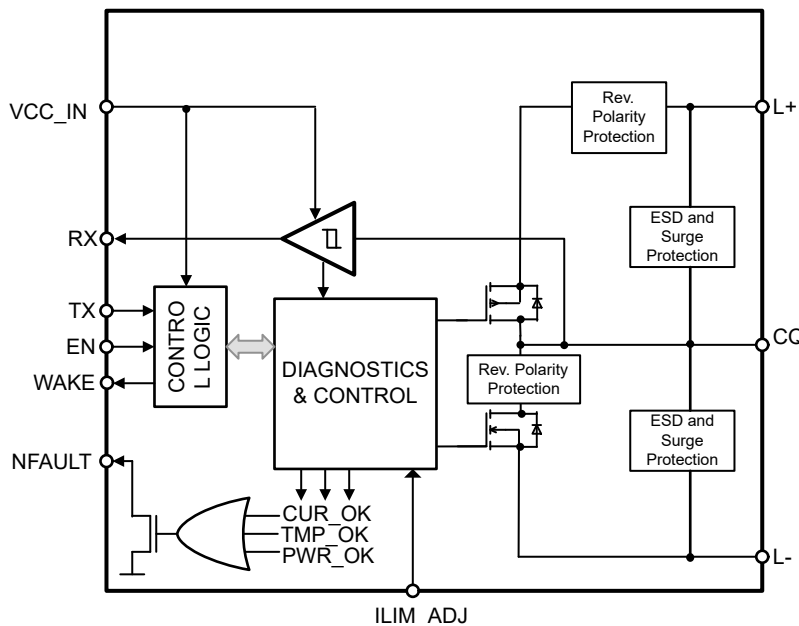

图 8-1. Block Diagram TIOL112
图 8-1 shows that the TIOL112 or TIOL112x driver output (CQ) can be used in either push-pull, high-side, or low-side configuration using the enable (EN) and transmit data (TX) input pins. The internal receiver converts the 24-V signal on the CQ line to standard logic levels on the receive data (RX) pin. A simple parallel interface is used to receive/transmit data and status information between the device and the local controller.